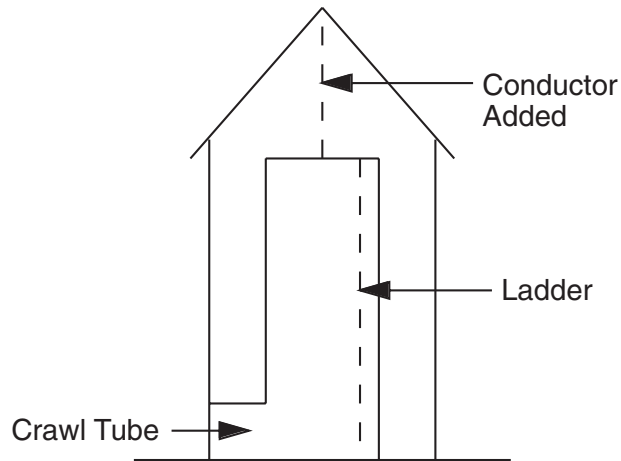

Figure 1 Fireproof Silo
- b. Lightning potential may rise so fast that wave fronts of a million volts per foot are created, causing arcs seeking a short path to ground. An example of this phenomena was given by MacEchron of a "fireproof" silo, constructed of steel, that consistently burned when hit by lightning. A cross-section of the silo is illustrated in Figure 1, below.